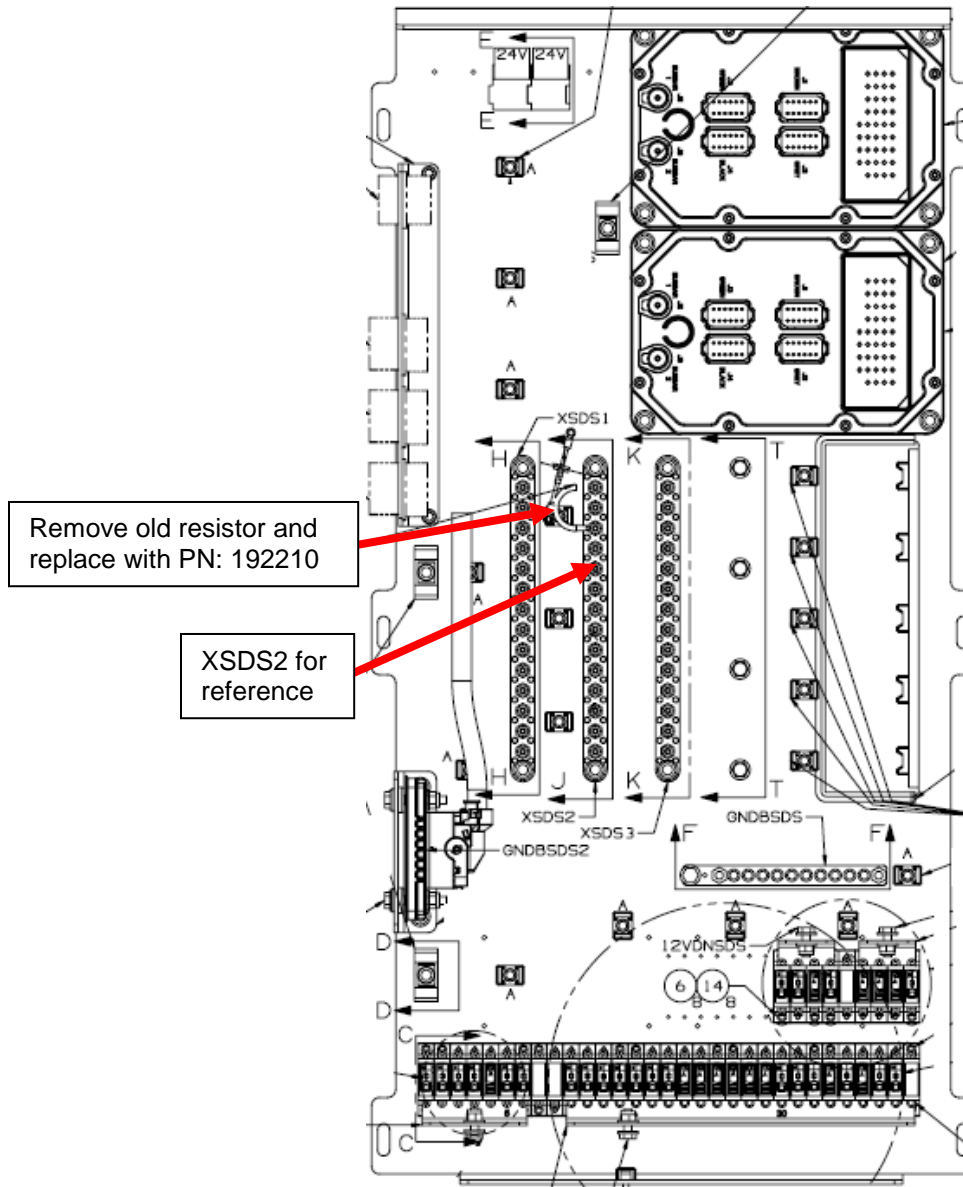

Figure 3: Rear facing side of SDS compartment.
13. Remove and replace pull down resistor with PN: (192210) and torque resistor connection on terminal block at XSDS2-1 and XSDS2-3 to 10.6 in-lbs as indicated in figure 3.